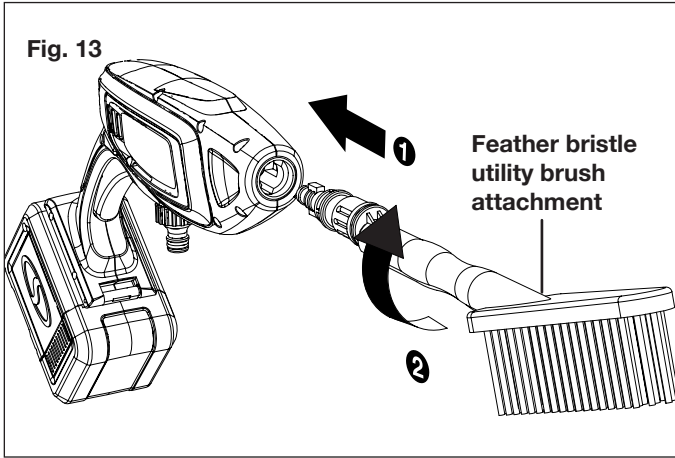

Fig. 13
2. Take the utility brush and align the two tabs with the inside grooves of the power cleaner. Once aligned, push the utility brush into the power cleaner, twist clockwise to lock into place. (Fig. 13).